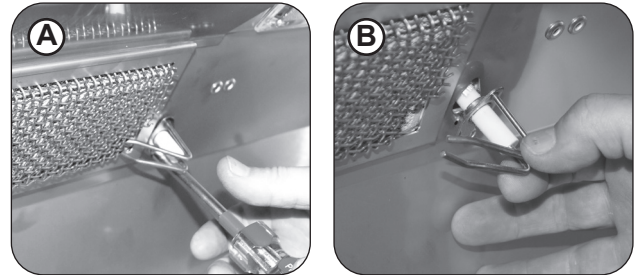

Fig. 45-2 Remove electrode
1. Remove the backburner electrode mounting screw (1/4" hex) (see Fig. 45-2, A) and loosen the electrode. Carefully pull the electrode assembly slightly from the grill wall to give enough clearance for the backburner to be removed (see Fig. 45-2, B).